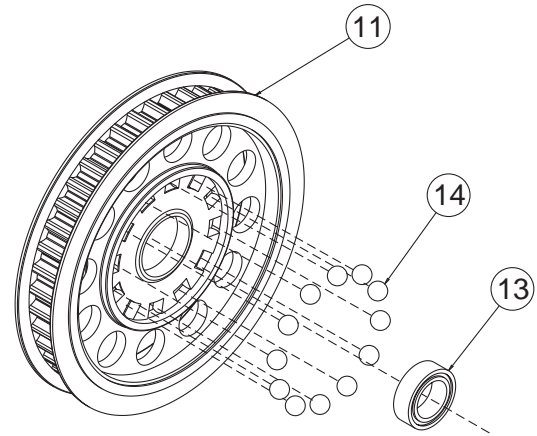

Figure 5
- 1. Insert a 5mm x 8mm Bearing (13) into the center of the 42T Diff Pulley (11).
**NOTE: Do not use any of the large diameter Diff Balls (14) (referring to the front assembly only!) when building the optional front Spool.*
- 2. Press a 3/32" Diff Ball (14) into each of the small holes in the Diff Pulley as indicated in Figure 5.